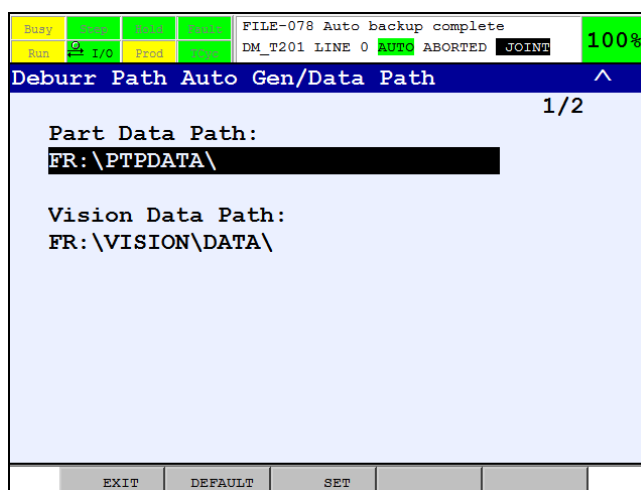

Fig. A.2.3 Data path setting screen
- 2 On the Part List screen, press "F→" → F1 "DATA PATH", and the data path setting screen appears. (Fig. A.2.3)